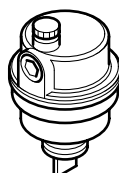

Fig. 41
5. Open the automatic air vent (Fig. 41).